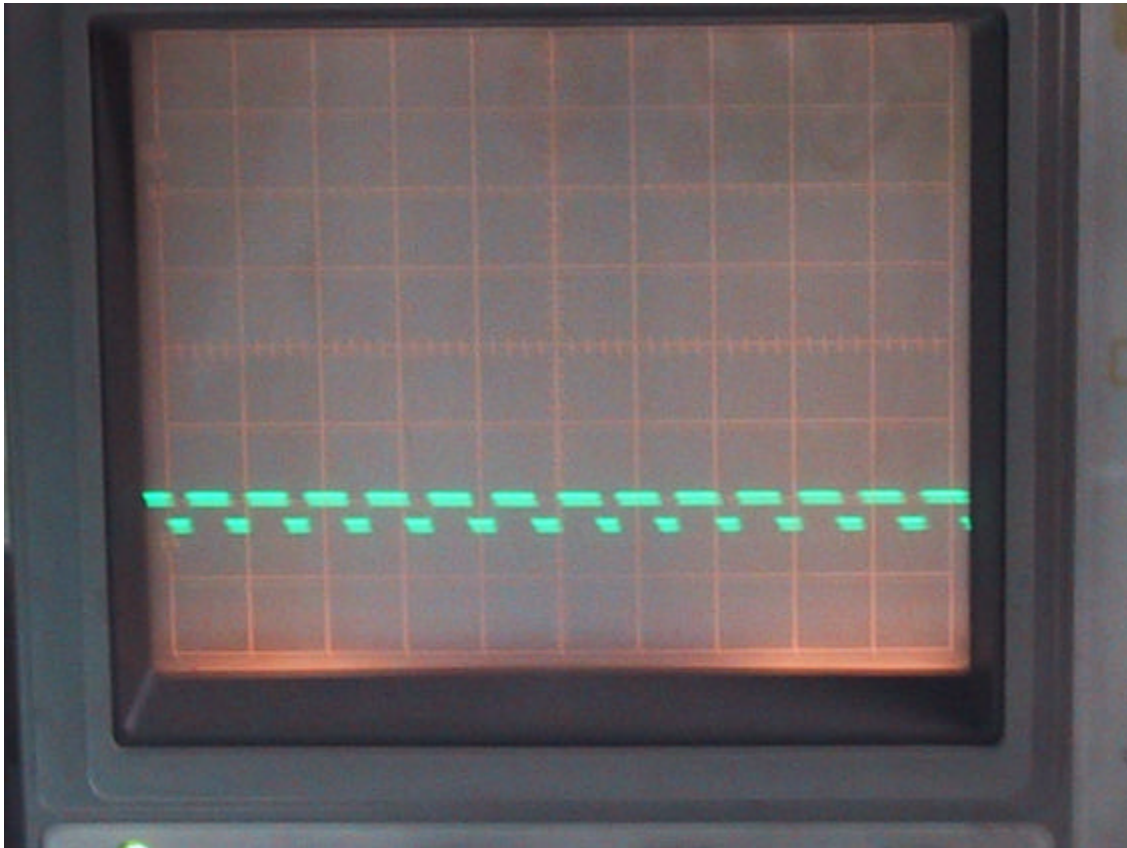

Figure 1
- c. Adjust R11, the zero-adjust pot, such that the top of the square wave is at 0 volts and the bottom is less than 0.5 volt (1/2 division) below that. See Figure 1.